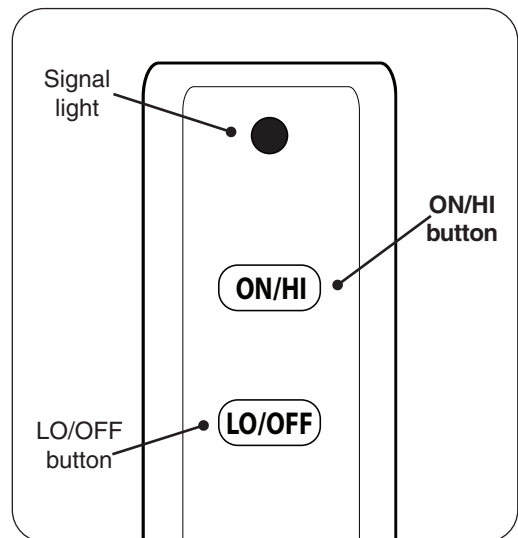

Fig. 35-1 Remote transmitter detail
2. Locate the remote transmitter and press and hold the **ON/HI** button (see Fig. 35-1). The ignition sequence will begin.